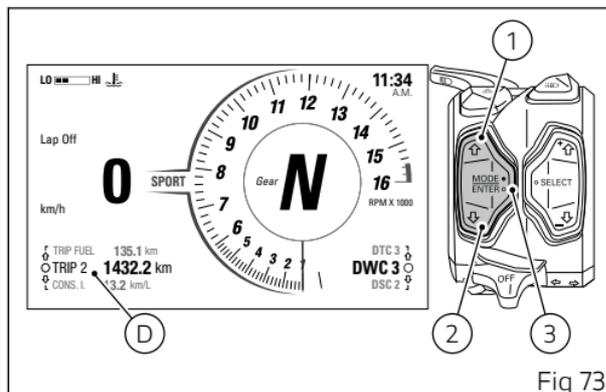

Fig 73
Trip information "TRIP 2" (D, Fig 73) can be reset by pressing ENTER (3) when selected: "RESET?" is displayed in place of the data.